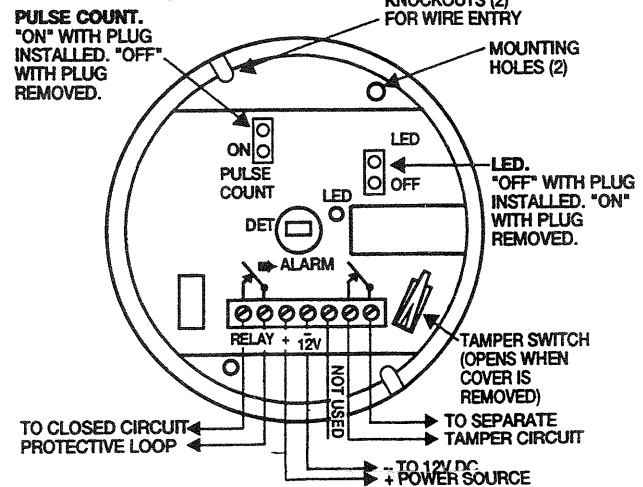

Figure 3. PC Board (in base of PIR)
3. **Break out one of the two knockouts** that have been provided for wire access (see Fig. 3), and pass the wires into the base of the PIR. *Caution: Be certain that wires do not obstruct the detector's field of view.*
4. **Connect all wires** to the screw terminals (see Fig. 3 for wiring details). Seal all openings in the base with foam or RTV (not supplied) to prevent drafts or insects from entering the unit.
The detector is shipped with the Alarm LED disabled (LED enable/disable plug in place). The LED should be enabled (for a walk-test) by removing the LED enable/disable plug (see Fig. 3 for location). To prevent the loss of the plug, we suggest you install it on one pin when the plug is not in use. When the walk-test is completed, the LED may be disabled, if desired (plug in place).
This PIR is equipped with a cover tamper switch. With cover on, the switch is closed; when cover is removed, the switch opens. The tamper terminals (see Fig. 3) should be connected to the control panel's tamper loop.
Each detector includes Pulse Count circuitry that is designed to provide stability in adverse environments to minimize false alarms. Two-event pulse count is provided by positioning the jumper plug across the pulse count pins (see Fig. 3 for location). To select one-event pulse count (instant response), remove the jumper plug. When programmed for 2-event pulse count, the detector will signal an alarm within 3 or 4 steps, since the processing logic requires more complex motion than just a momentary event. When the detector verifies an intrusion, the LED will light and the alarm relay contacts will transfer, both conditions lasting for approximately 1 to 3 seconds (dependent upon signal strength).